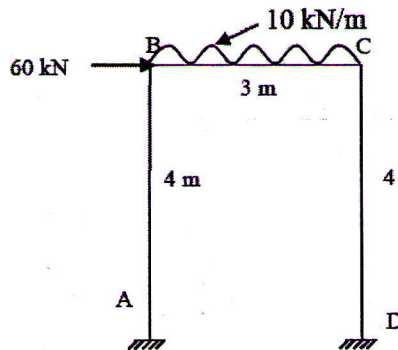

Fig.3
| | b) Analyse the frame shown in fig.3 by slope deflection method and draw the BMD. Moment of inertia for all the members are same. $EI = 3000 \text{ kNm}^2$. | (8) |